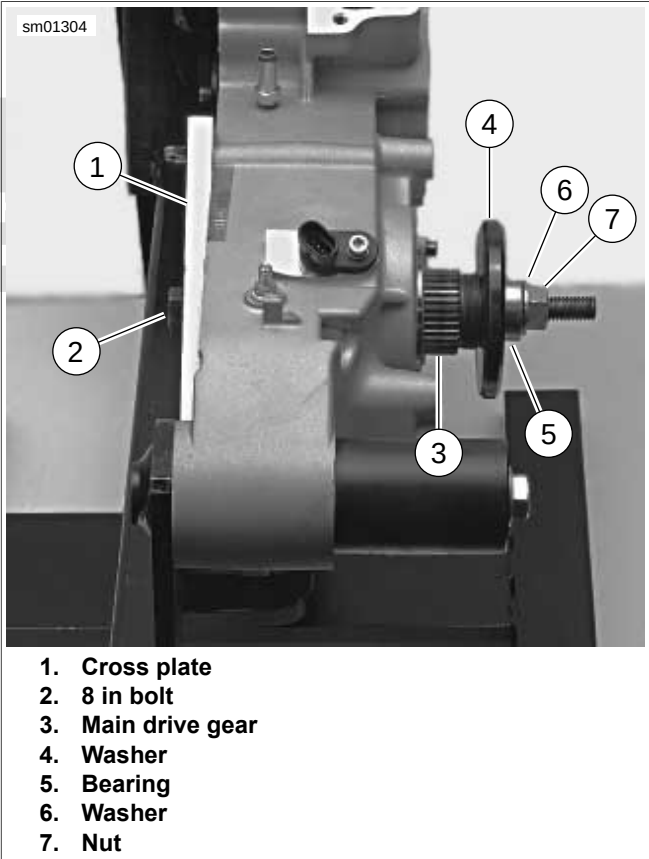

Figure 5-67. Removing Main Drive Gear (typical)
4. See Figure 5-67. Insert 8 INCH BOLT (Part No. HD-35316-4A) (2) through cross plate (1) and main drive gear (3).
5. At outside of case, place WASHER (Part No. HD-35316-7) (4), BEARING (5), FLAT WASHER (6) and NUT (7) over end of bolt. Tighten nut until main drive gear is free.